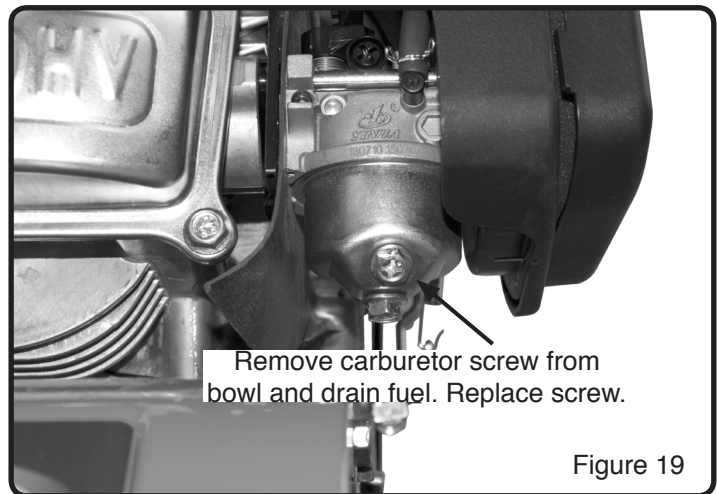

Figure 19
1. Let the engine run until it is out of gasoline. Remove carburetor screw from bowl and drain fuel. Tilt unit slightly to remove all fuel. Replace screw. (Figure 19)